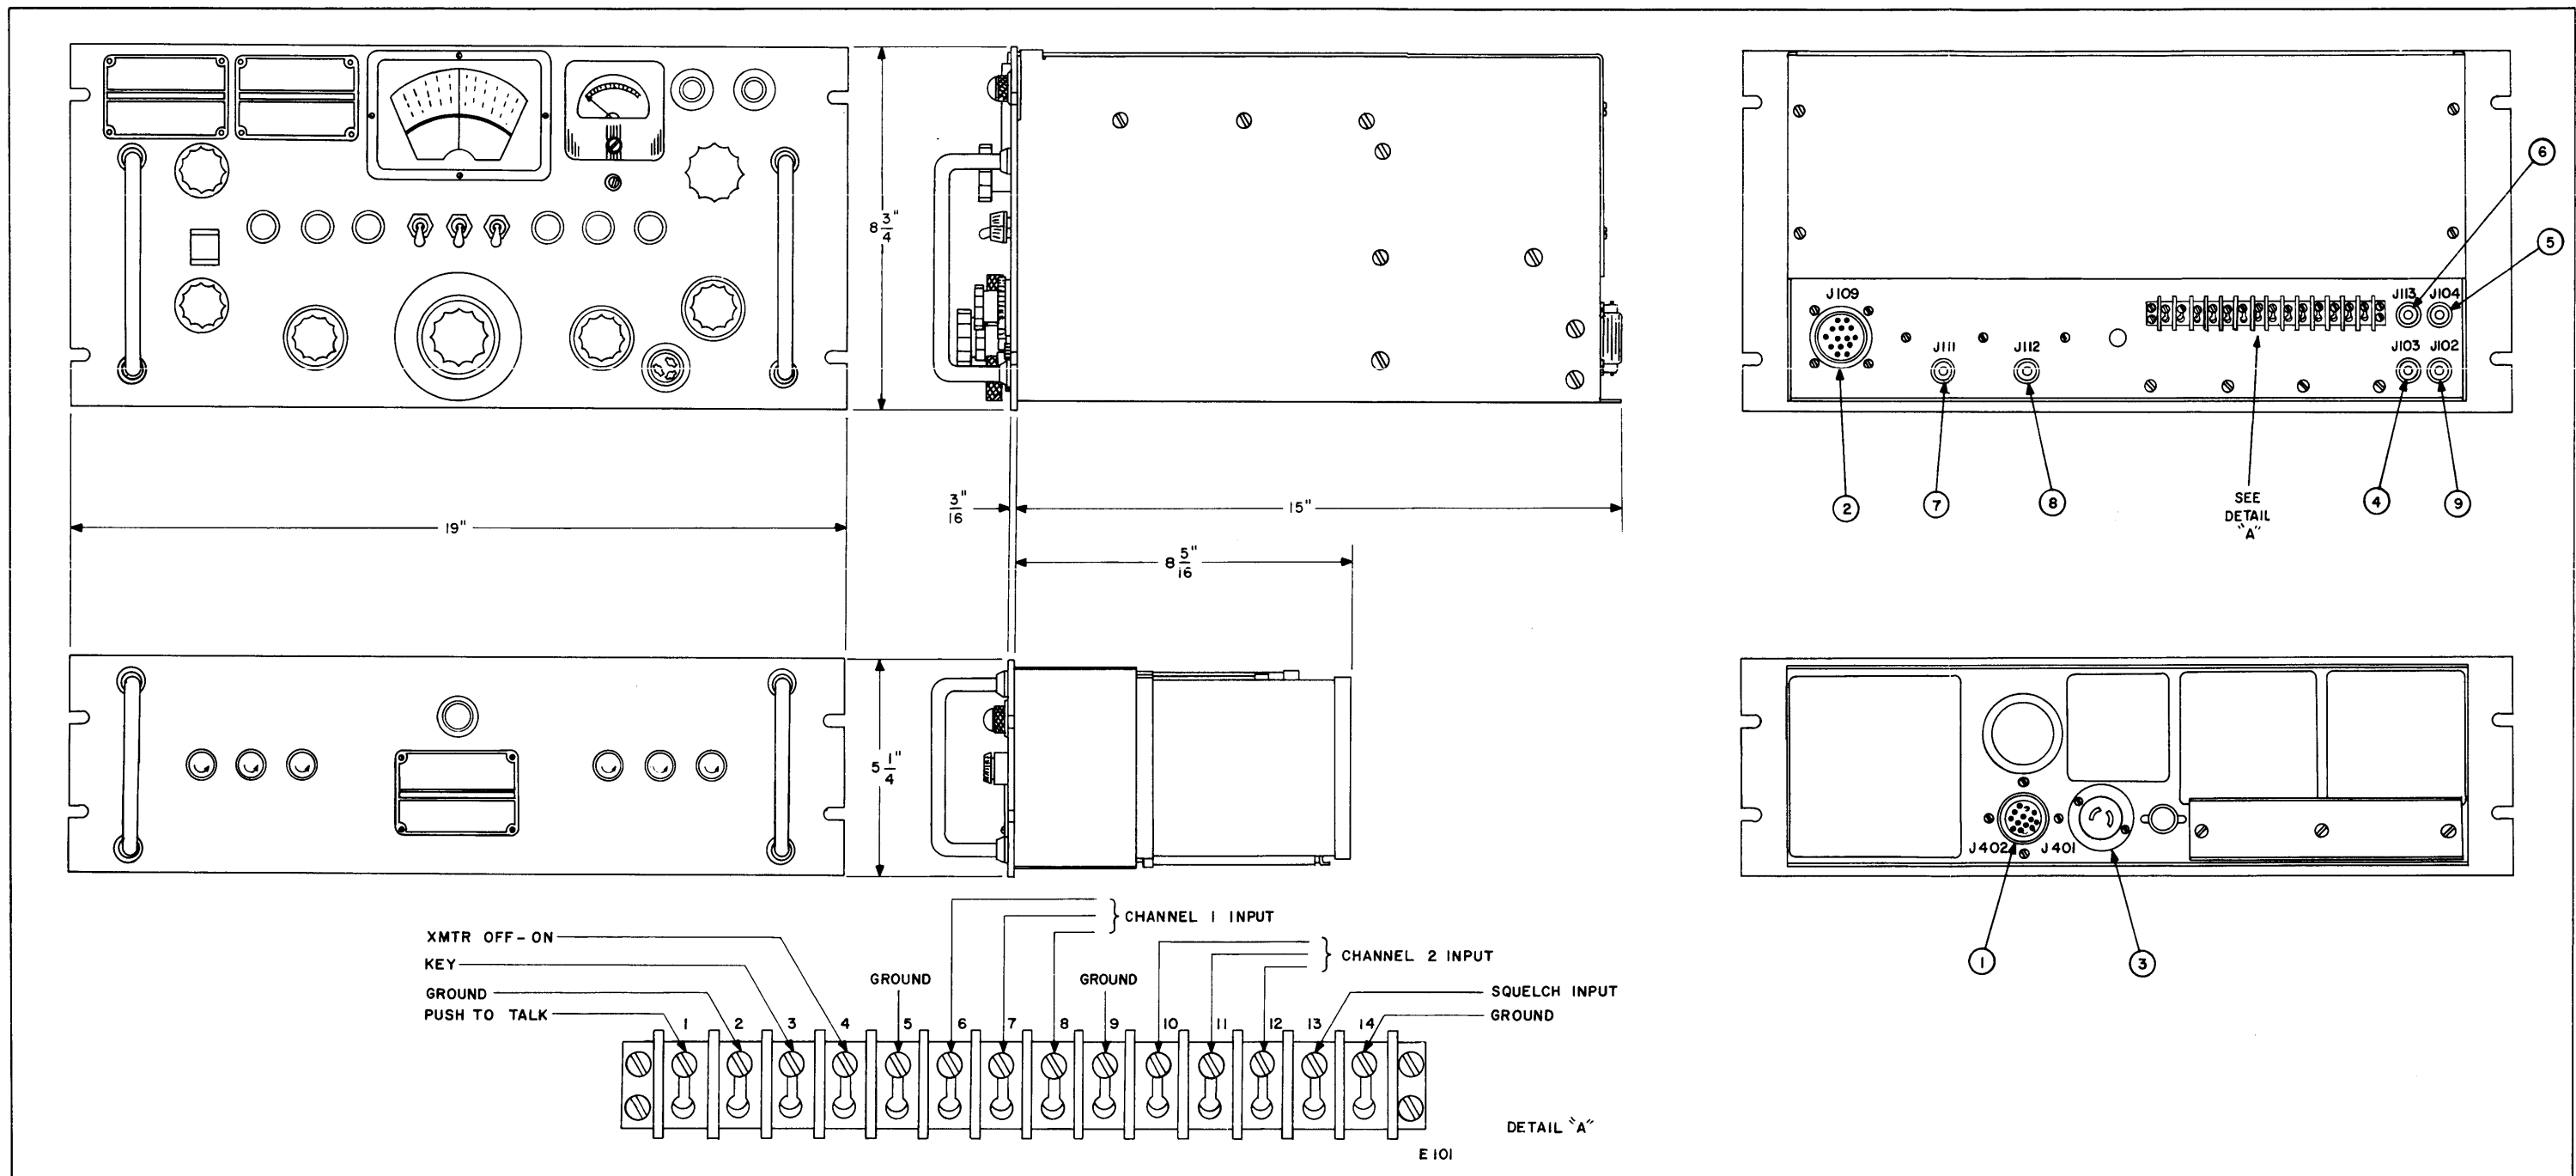

Figure 2-2. Outline Dimensional Drawing
a. Mount the SBE and its power supply in a standard 19-inch relay rack or other housing as desired. Figure 2-2 is an outline dimensional drawing of the SBE and its power supply.
b. Connect cable CA-346 (supplied) from J402 (ref. 1, figure 2-2) power supply to J109 (ref. 2, figure 2-2) of the SBE.
d. Connect Cable CA-103.72 (supplied) from J401 (ref. 3, figure 2-2) of the power supply to an AC source.
e. Connect RF OUT connector J103 (ref. 4, figure 2-2) of the SBE to the input of the associated transmitter. Use one of the two (supplied) connectors UG-260/U, or RG-59/U.
f. If an external VMO is to be used, connect it to VMO IN connector J104 (ref. 5, figure 2-2) on the rear of the SBE and use the MF XTAL SW in the VMO position. Use one of the two (supplied) connectors UG-260/U, or RG-59/U.
h. ALDC INPUT connector J113 (ref. 6, figure 2-2), connected on the rear apron of the chassis, is furnished for connection of an ALDC (Automatic Load and Drive Control) signal. This ALDC signal may be obtained from any TMC linear amplifier.
i. Two sideband monitor connectors, LSB OUT J111 and USB OUT J112 (ref. 7 and ref. 8, figure 2-2) are provided on the rear apron of the chassis. These connectors are provided for audio sampling of the upper sideband and lower sideband signals with any suitable audio monitoring device.
j. An r-f monitor connector, RF MON J102 (ref. 9, figure 2-2) is provided on the rear apron of the chassis. This connector is provided for sampling of the r-f output signal with any suitable r-f monitoring device, such as the TMC Model PTE-3.